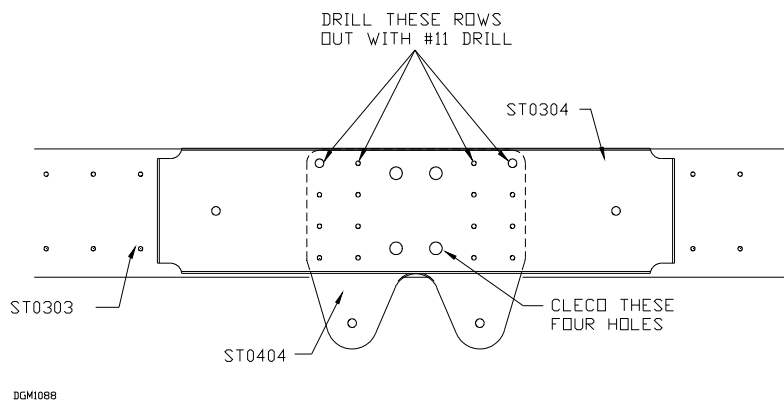

Figure 2.6.2
3. Cleco together the Rear Spar, Rear Spar Doublers, a Rear Attach Bracket ST0404 and a Rear Center Dabler ST0304 as in Figure 2.6.2
4. Drill the fourteen #40 and two #11 holes out to #11 as in Figure 2.6.2.